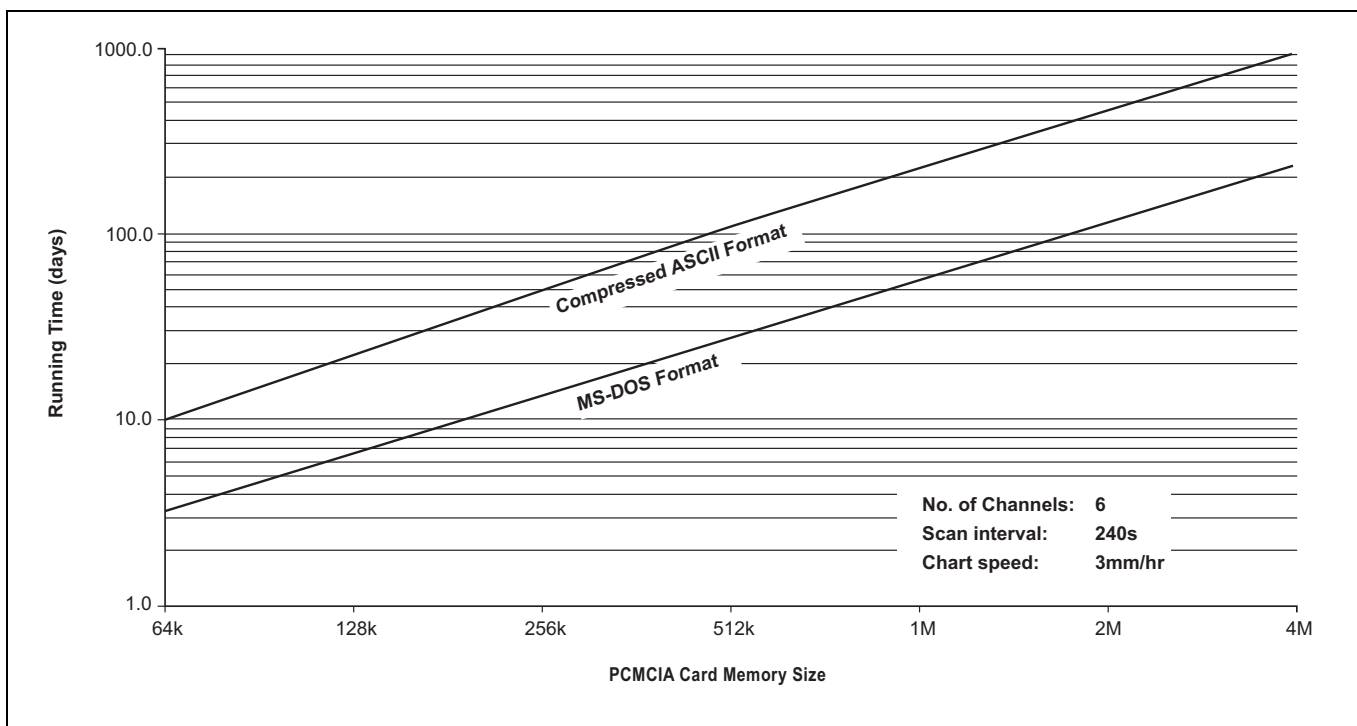

Fig. 2.1 Memory Card Data Logging Capacity
2.1 Storage Fig. 2.1
Fig. 2.1 shows estimated running times while data logging. Equations which calculate times specifically can be found in the SR100 memory card manual (part no. IM/SR100A-MEM). A scan interval of 240 s (MS-DOS format) or 3 mm/h chart speed (Compressed ASCII format) gives the longest run-time for a particular card.